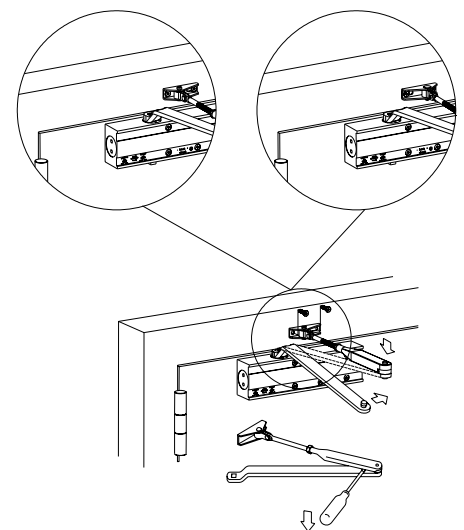

Fig. 4
5. Place link arm onto closer spindle at right angles to door, fit securing screw, move link arm and re-connect to adjuster arm. (See Figs. 4 & 5)